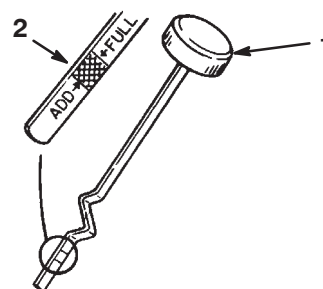

Figure 16
6. Unscrew the oil dipstick and wipe the metal end clean (Fig. 16).